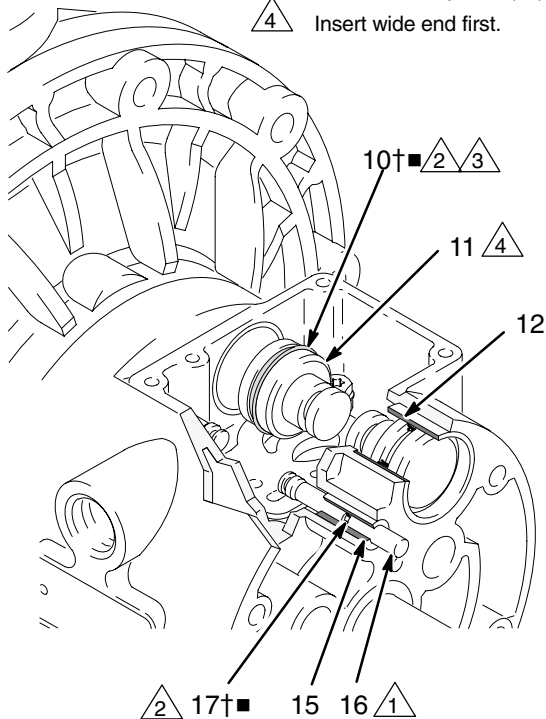

Fig. 8
4. Pull the two actuator pistons (11) out of the bearings (12). Remove the u-cup packings (10) from the pistons. Pull the pilot pins (16) out of the bearings (15). Remove the o-rings (17) from the pilot pins. See Fig. 8.
6. Inspect the bearings (12, 15) in place. See Fig. 8. The bearings are tapered and, if damaged, must be removed from the outside. This requires disassembly of the fluid section. See page 22.
4. Install an o-ring (17) on each pilot pin (16). Grease the pins and o-rings. Insert the pins into the bearings (15), **narrow** end first. See Fig. 8.
5. Install a u-cup packing (10) on each actuator piston (11), so the lips of the packings face the **narrow** end of the pistons. See Fig. 8.
6. Lubricate the u-cup packings (10†■) and actuator pistons (11). Insert the actuator pistons in the bearings (12), **wide** end first. Leave the narrow end of the pistons exposed. See Fig. 8.